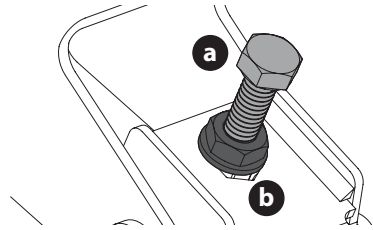

Fig. 38
3. Locate the adjustment bolts (a) on the left and right side of the deck (Fig. 38).
4. Loosen, but do not remove, the jam nuts (b) on the adjustment bolt. Adjust either the right or left adjustment bolt up or down as necessary until the side-to-side heights are equal (Fig. 38).
5. When proper adjustment is achieved, re-tighten the jam nuts (b). Tighten to 200 in-lbs (23 N-m) (Fig. 38).